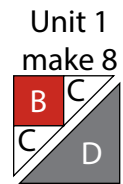
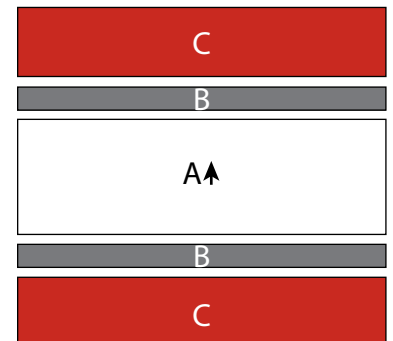

Fig. 1
Fig. 9
1. Sew (1) $3\frac{7}{8}$ " Fabric C triangles to adjacent sides of (1) $3\frac{1}{2}$ " Fabric B square. Sew (1) $6\frac{7}{8}$ " Fabric D triangle to the long side of the newly sewn triangle to make (1) $6\frac{1}{2}$ " Unit 1 square (Fig. 1). Repeat to make (8) Unit 1 squares total.
13. Sew (1) 1 ½" x 16 ½" Fabric B strip to the top and to the bottom of (1) 16 ½" x 5 ½" Fabric A strip (Fig. 1). Sew (1) 3 ½" x 16 ½" Fabric C strip to the top and to the bottom of the newly sewn strip to make (1) Place Mat top (Fig. 9). Repeat to make (4) Place Mat tops total.